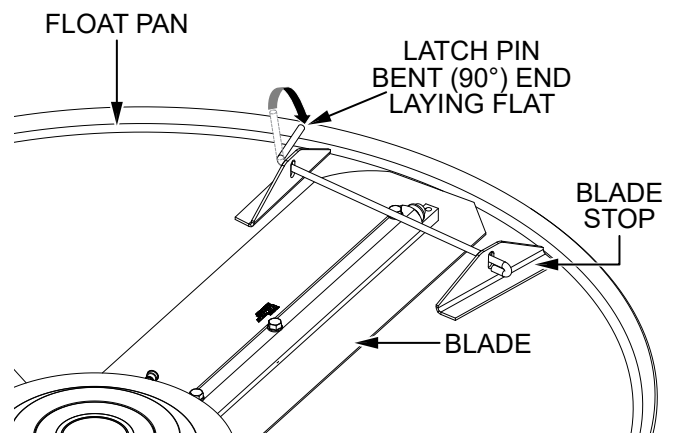

Figure 57. Latch Pin Placement
4. After it has been routed through the blade stop holes, rotate each latch pin so the end that is bent approximately 90 degrees lays flat on the surface of the float pan. See Figure 57.